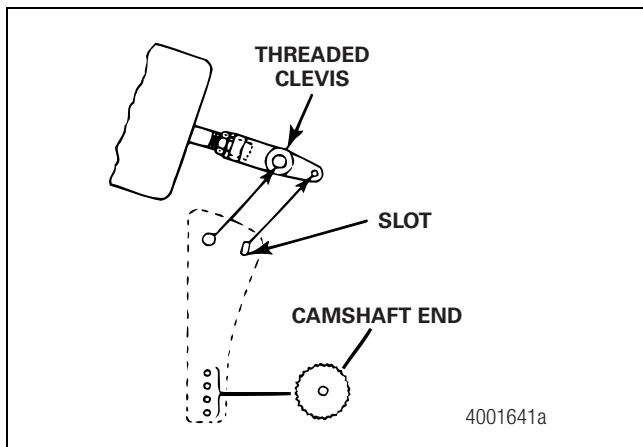

Figure 11.3
3. Look through the slot in the template. If necessary, adjust the position of the clevis until the small hole in the clevis is completely visible through the template slot. Figure 11.3.